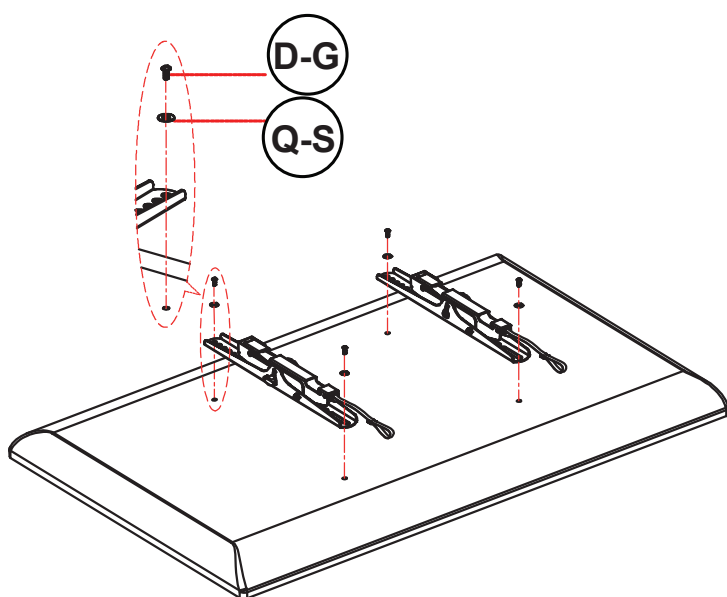

Fig. 1A
Center the Brackets (2) vertically on the rear of the TV. Attach the Brackets (2) to the rear of the TV using four of the bolts (D-L) with the proper size washers (Q-S) as shown in Fig. 1a. Do not over tighten.